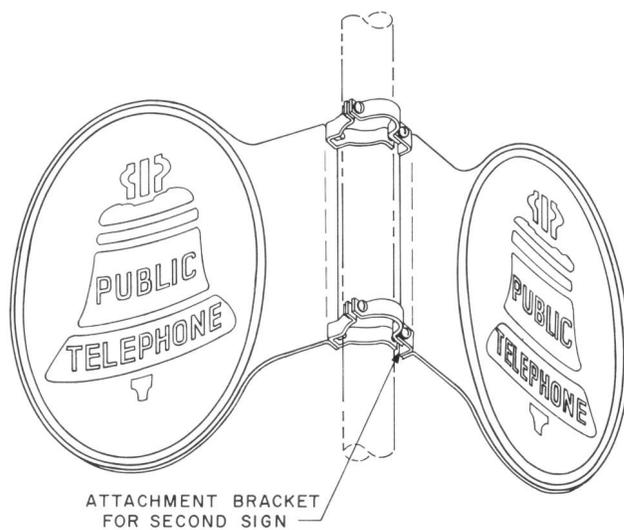

Fig. 6 - Double Installation, KS-16597-Type Signs
3.06 KS-16597-type signs may be mounted at right angles to a flat surface (Fig. 5) or on a post or pole with 170- or 188-type brackets (see Fig. 6).